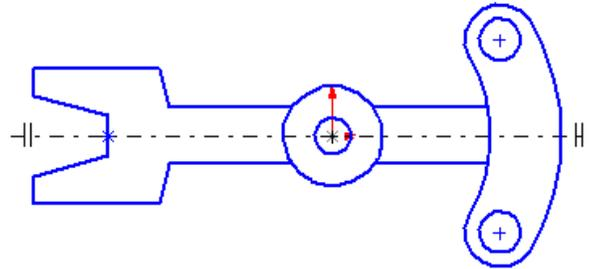

Figure 3-62 Complete sketch
- d. Draw the sketch on one side of the mirror line, refer to Figure 3-62.
The sketch after drawing the required arcs, circles, and lines is shown in Figure 3-62.